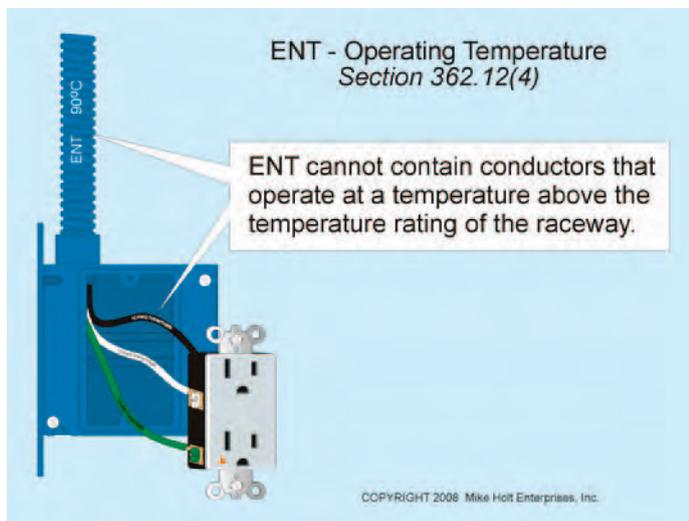

Figure 362-1
- (1) In any hazardous (classified) location, except as permitted by 504.20 and 505.15(A)(1).
- (2) For the support of luminaires or equipment. See 314.2.
- (3) Where the ambient temperature exceeds 50°C (122°F).
- (4) Where conductors operate at a temperature above the temperature rating of the raceway. **Figure 362-1**